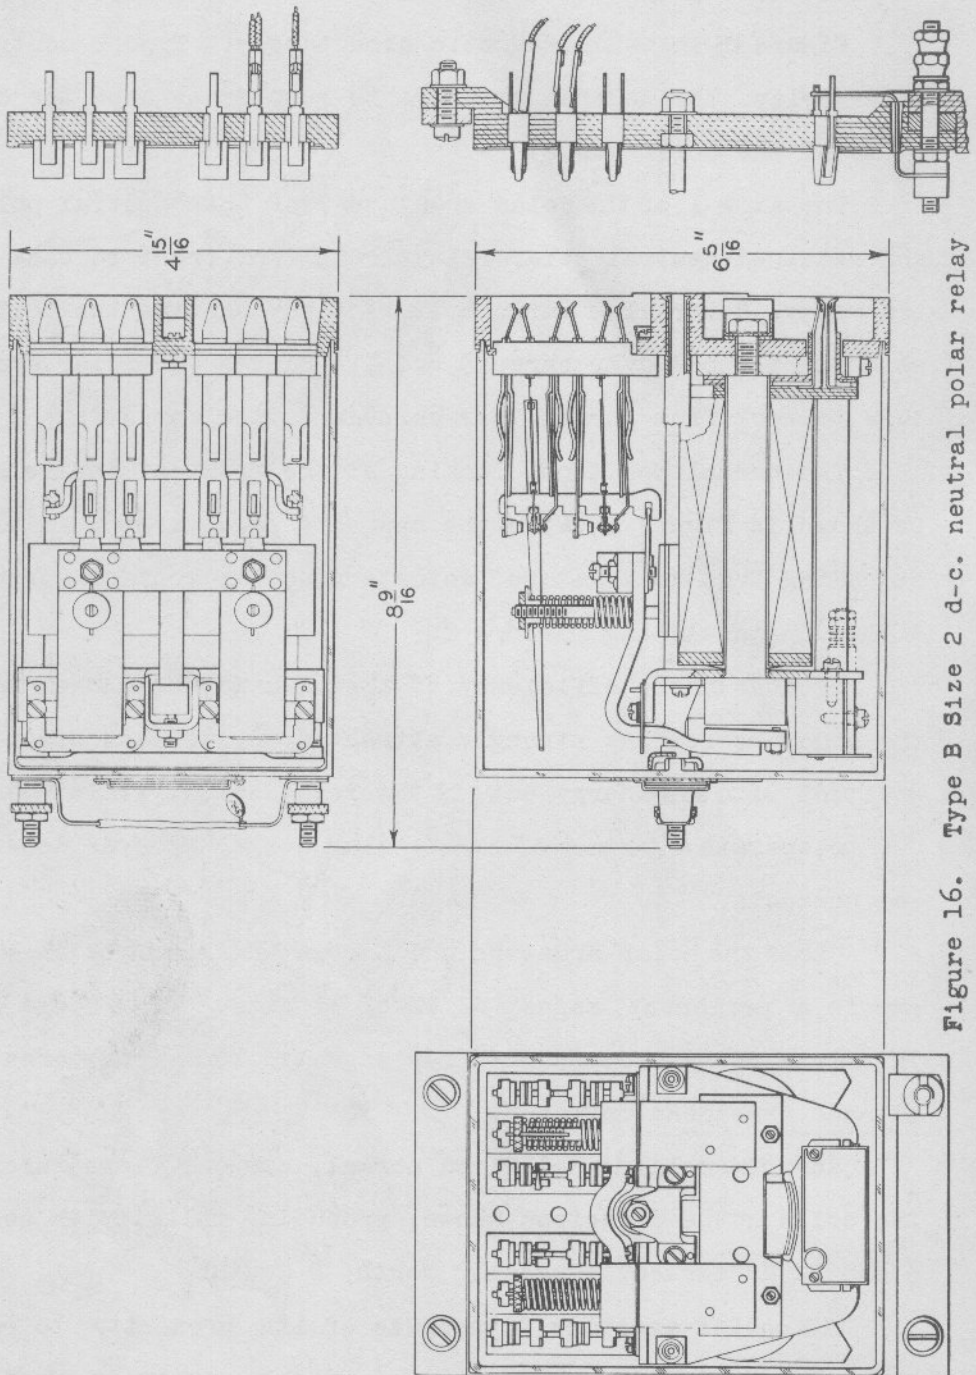

Figure 16. Type B Size 2 d-c. neutral polar relay
- (c) Size 2 d-c. neutral polar relay, Figure 16, and Catalog Section E Part 32.